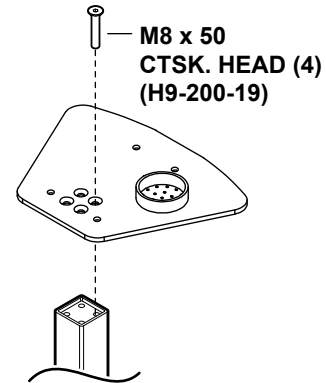

Figure 2. Upper tether bracket adapter
2. Attach the bracket adapter to the bottom plate (Figure 2). Align the four holes at the top of the adapter with the four holes on the bottom plate. Use a 3/16" Allen wrench to secure the adapter to the plate with four M8 x 50 countersunk screws.